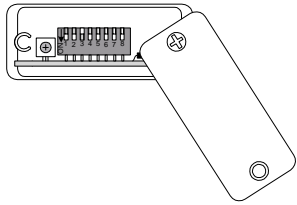

Ilustración 2
2. With the power turned off at the SMC Modulator, remove the partially inserted screw from the bottom cover. Rotate the cover to open and locate the channel programmer switches and gain adjustment screw. (Figure 2)